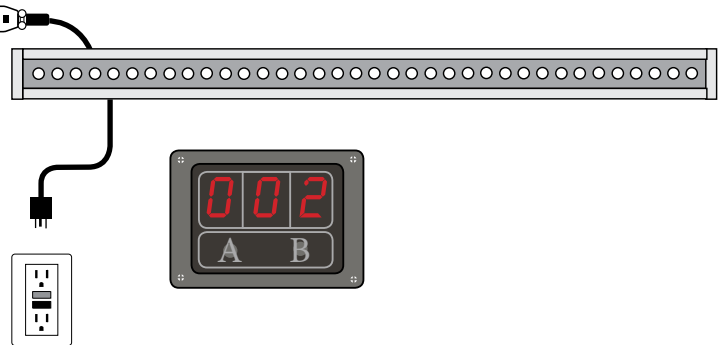

Fig. 2b
4. To sync the slave washers to the master washer, set the code in the Address Menu of each slave fixture to any number other than '001' (Fig. 2b). It is recommended to set each slave with an individual code (e.g. '002', '003', '004' etc.). The Function (P) Menu is not required to operate slave wall washers.